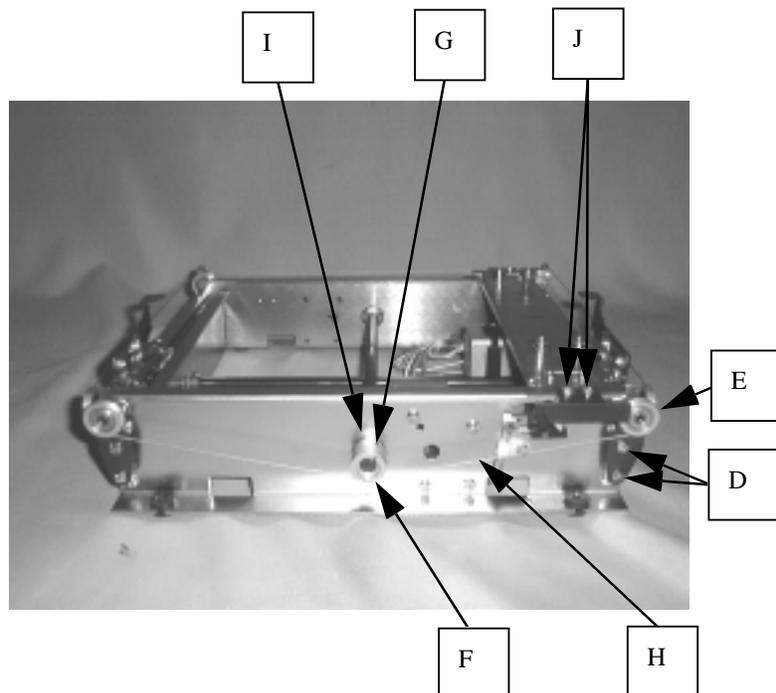

FIGURE 16-2
3. Loosen setscrews (D) shown in Fig.16-2, and detach the wire (H) from wire pulley (E). Remove setscrew(G) from pulley (F), and then , remove wire holder (I). Remove wire (H) from pulley (F).
5. Loosen setscrews (J) shown in Fig.16-2, and separate the wire and the X-carriage from each other.